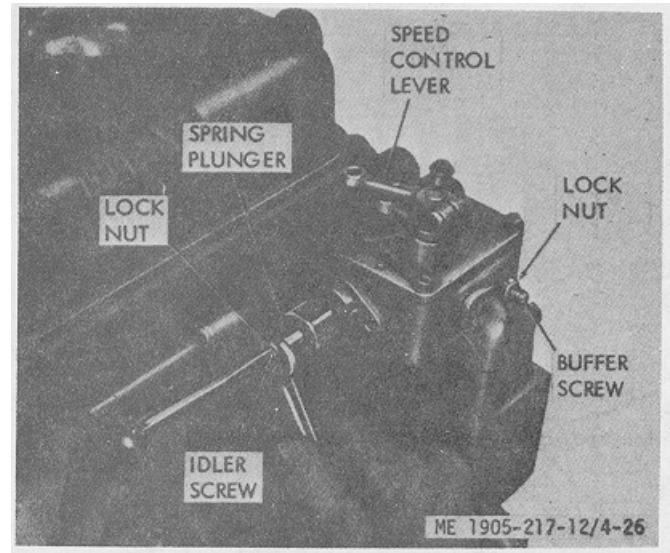
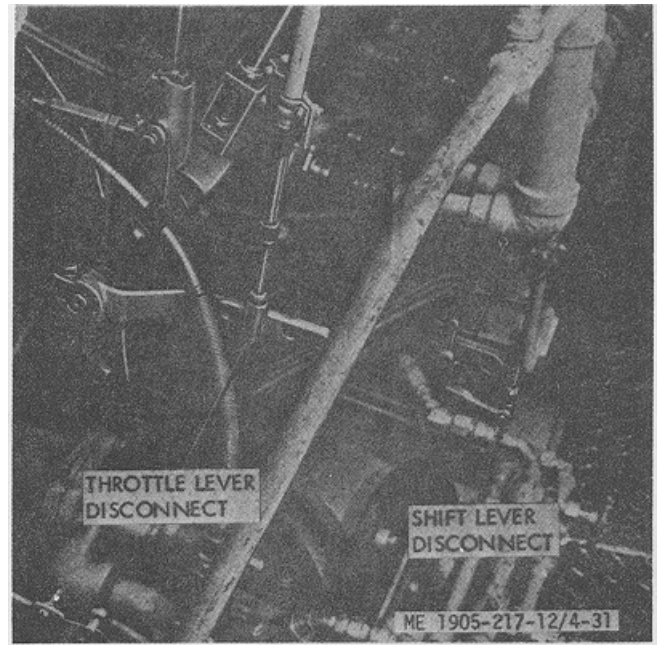

Figure 4-30. Pilot house engine control, hull number 8520 thru 8519.
Figure 4-31. Engine controls quick disconnects, hull number 8520 thru 8539.
a. *General.* Hull numbers 8520 thru 8569 have a separate model MK control system for each propulsion unit. Each control system consists of a pilot house control head and two push-pull cables. One cable is for shift control and the other for throttle control. The control head lever operates both cables in proper sequence as shown in figure 4-30. A neutral throttle lever is provided on each control head. If control from the engine room is necessary, the cables can be disconnected by using the quick disconnects shown in figure 4-31.